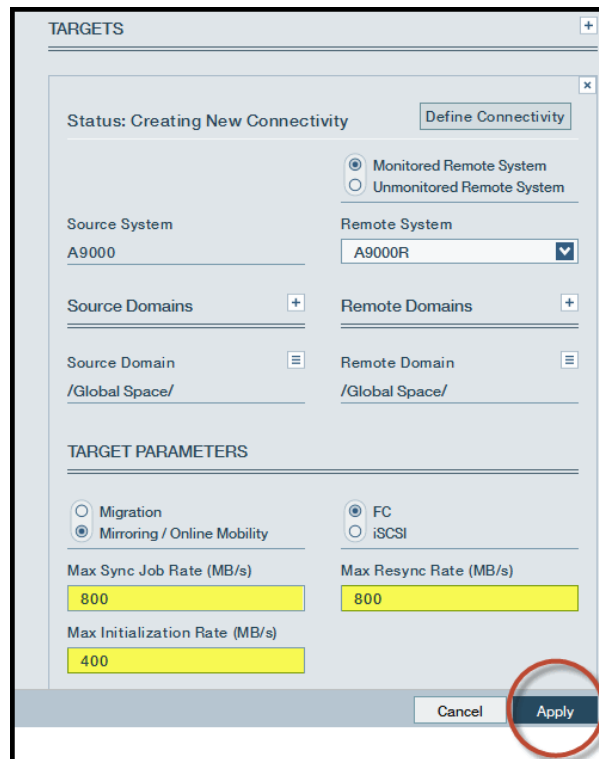

Figure 1-20 Click Apply to create Target
The initialization rate, sync job rate, and resynchronization rate are specified for each mirroring target using the XCLI `target_config_sync_rates` command or through the Hyper-Scale Manager, as shown in Figure 1-20.
4. Click **Apply**, as shown in Figure 1-20, to create the new Target.